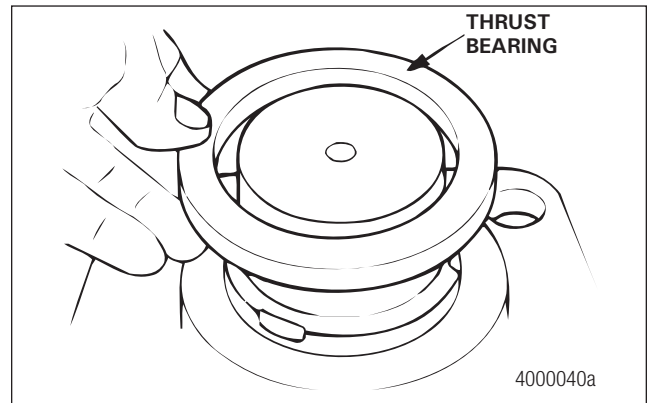

Figure 7.9
6. Install the thrust bearing against the journal on the lower cap. Figure 7.9.